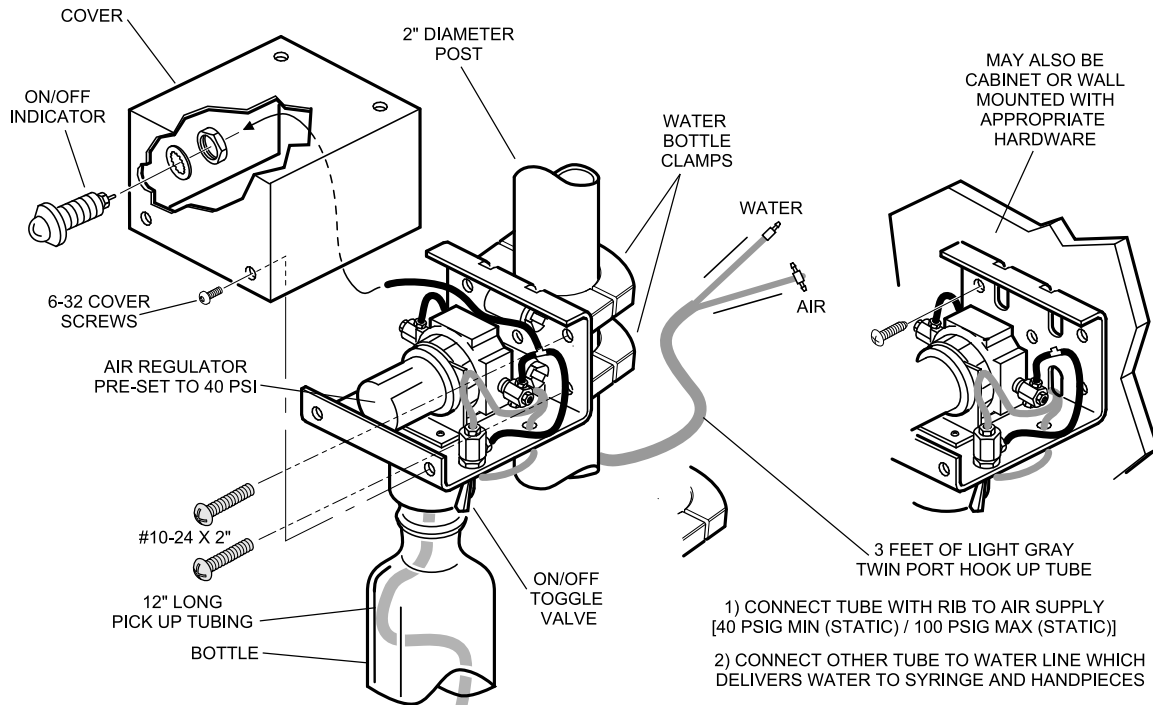

Figure 5
- ⑨ Locate the 1/8" red tube. Cut the line and attach two ends of the tee fitting to the tube (See Figure 5).
- ⑩ Connect the tee fitting to the end of the twin port tubing, which will supply air to the bottle regulator (**ribbed tube**).
- ⑪ Locate the blue 1/8" tube. Cut and plug the end coming from the J box.
- ⑫ Attach the other end of the blue tube to the remaining twin port tubing end (**un-ribbed tube**). This step connects the water line from the bottle to the instrument head.
- ⑬ Arrange the tubing and connections neatly to avoid kinking.
1) Connect air to the twin port hook up tube with the rib. Water to be supplied will be delivered from the other tube (un-ribbed) (See Figure 5).